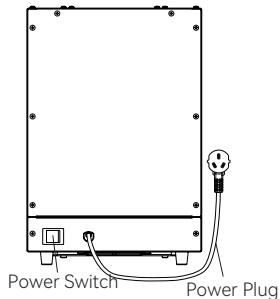

Figure 1
- ① Turn on the power switch (as shown in Figure 1) to hear a long beep. The LED display will show "OFF," indicating the device is in standby mode.